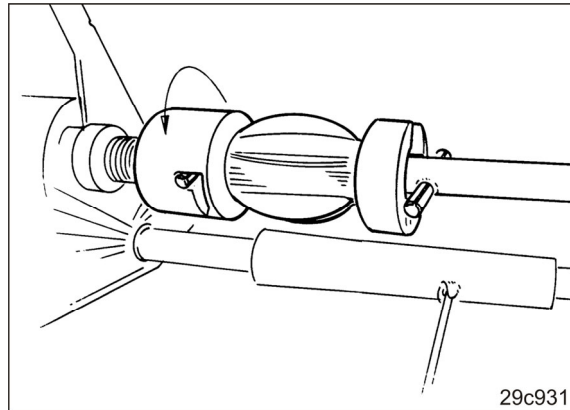

Fig. 209
3. Switch off the left side of the seeding shaft (Fig. 209)